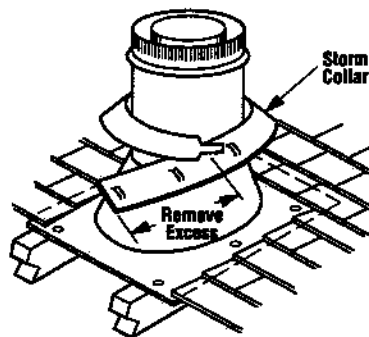

Figure 22
J. Install the storm collar, supplied with the flashing, over the vent/flashing joint. Wrap the storm collar around the vent noting which locking groove closely aligns with the tab (Figure 22). Pencil mark excess material, unwrap and trim excess with shears. Reposition collar, insert tab through both slots, pull tab so that collar is tight around vent. Slide collar down until it meets top of the flashing. Bend tab back over slot. Apply noncombustible caulking or mastic around circumference of the joint and the tab slot area to provide a water tight seal.